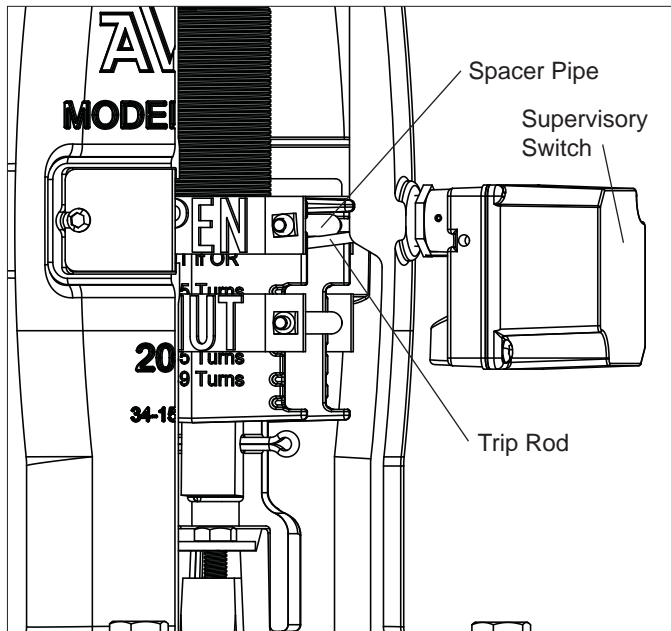

Fig. 7
2. Adjust the length of the switch-trip-rod according to Figs. 7,8 depending upon installation. See the "installation notes" below.
For an "open left" valve in the "open" position and the supervisory switch is to trip when the valve is closed, the supervisory switch must be mounted so that the switch trip rod is positioned to be touching the underside of the upper sign spacer pipe as shown in Fig. 7.